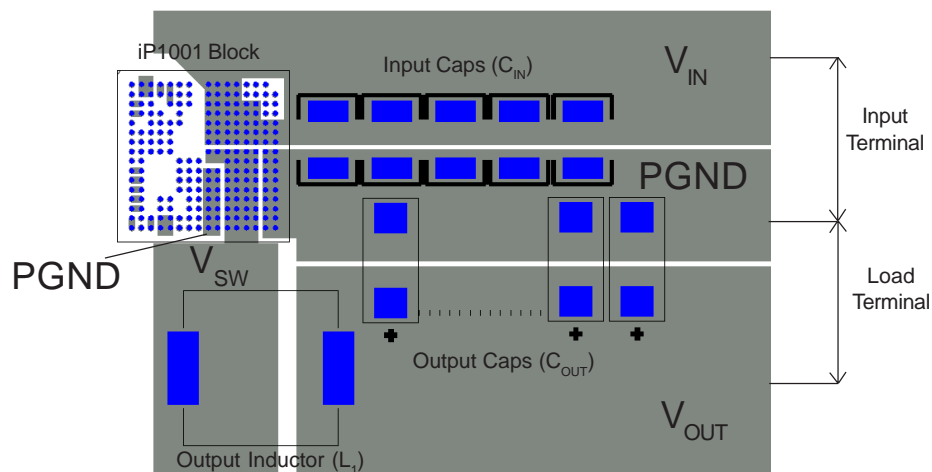

Fig 9. iP1001 suggested layout
1. Follow the layout scheme presented in Fig.9. Make sure that the output inductor L1 is placed as close to the iP1001 as possible to prevent noise propagation that can be caused by switching of power at the switching node V_{SW} , to sensitive circuits.